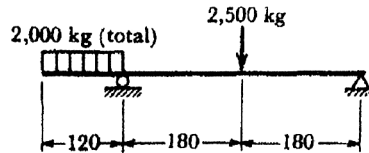

Fig.5 (a)
- 5(a) Construct the complete shear force and bending moment diagram for the beam shown in Fig.5 (a). Also determine the maximum bending moment and the point of contra-flexure.
- (b) For a rectangular element shown in Fig. 5(b), the following numerical data are given $\sigma_x = 100 \text{ kg/cm}^2$, $\sigma_y = 75 \text{ kg/cm}^2$ and $\tau_{xy} = 50 \text{ kg/cm}^2$. Determine